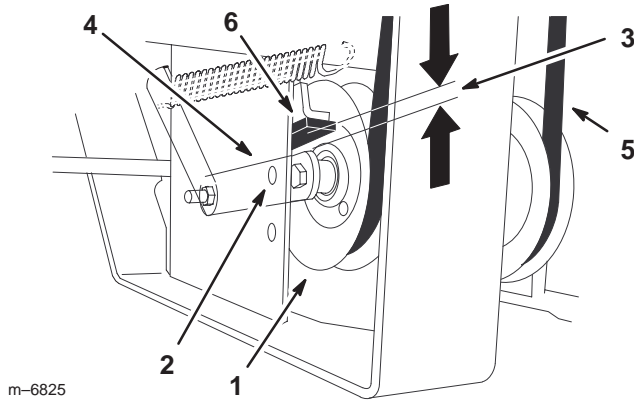

Figure 77
- Check the distance from the rubber stop and the arm of the spring loaded idler pulley when the idler plate is tightened. It needs to be 0 to 1/4 inch (0 to 6 mm) from the rubber stop (Fig. 77).